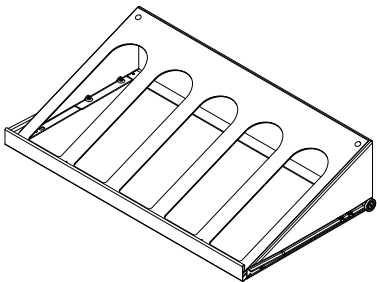

Figure 16
- (1) 5 bottle rollout display rack with vibration dampening mat (See Figure 16).